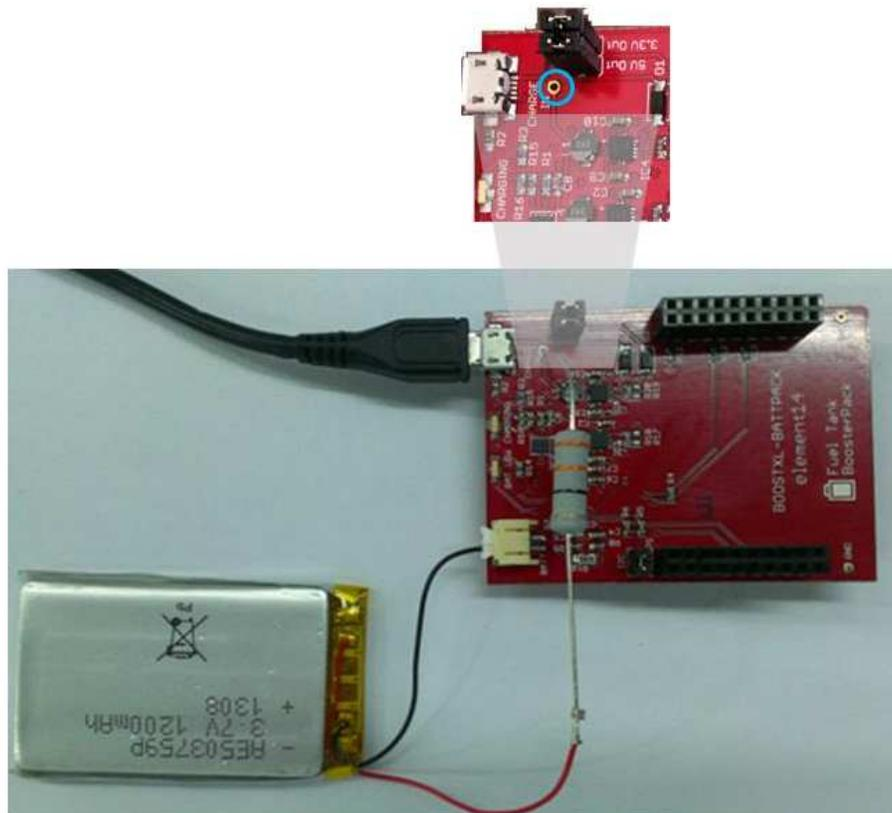

Figure 21.
4. Connect the negative terminal of the battery to the BoosterPack “BATT” terminal and the resistor to the “CHARGE IN” testpoint as shown in Figure 21: